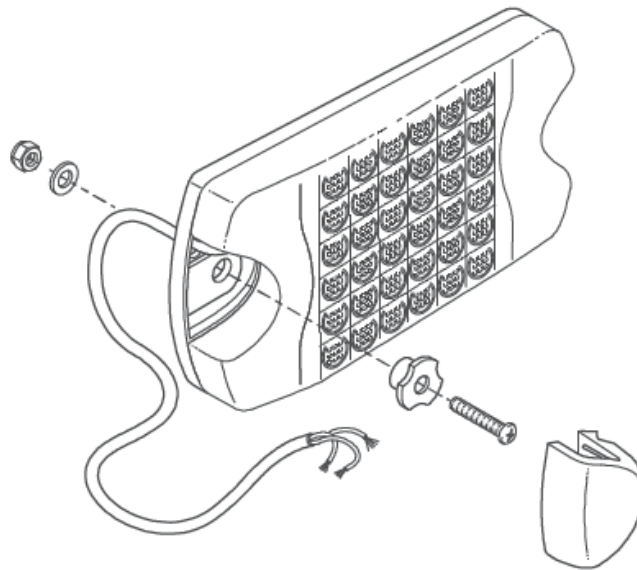

Figure 14 Stop, Tail and Indicator Fittings
72. Access to the fitting hardware of the stop/tail and indicator light assemblies is illustrated in Figure 14. Slide a small flat-tip screwdriver between the innermost corner of the black plastic cover and the lens to remove the cover.